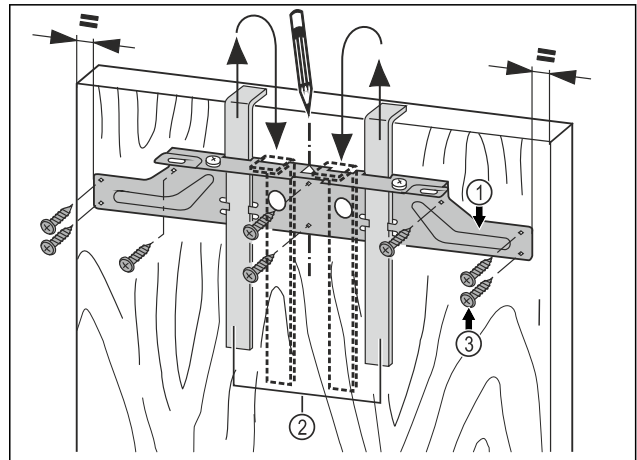

Fig. 18
- Hang the fastening crossbeam Fig. 18 (1) with the assembly aids Fig. 18 (2) on the inside of the unit door.
- Align the fastening crossbeam Fig. 18 (1) in the center of the door.
- Screw down the fastening crossbeam Fig. 18 (1) with at least 6 screws Fig. 18 (3).
- Screw down the fastening crossbeam Fig. 18 (1) to the edge with 4 screws Fig. 18 (3).
- Pull out the assembly aids Fig. 18 (2) upwards and insert them rotated into the adjacent openings.